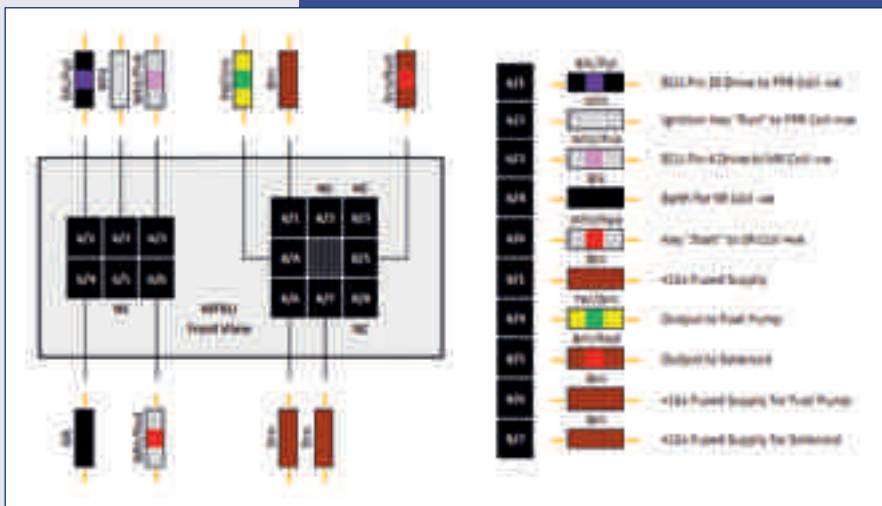

Fig 3: layout of connection pins, with key to the wiring colours, for the original Caterham MFRU.
- Identify the coloured wires connected to the MFRU as shown in the **Fig 3**.